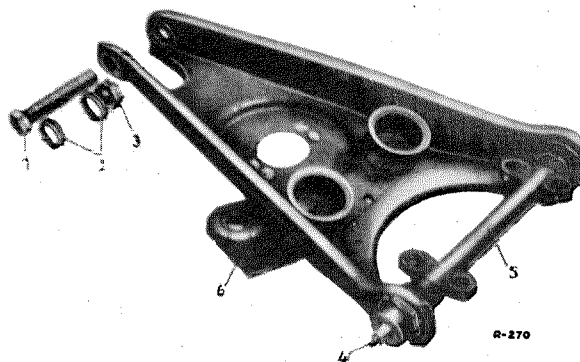

Fig. 33 — 4/14
45. Slide the pivot pin (5) into the lower control arm and screw in the two threaded bushings (Fig. 33 — 4/14). The pivot pin must be capable of being turned without binding. If there is any damage to the threads or if there is any misalignment of the two threads, this shows when the pivot pin is turned.